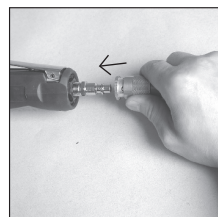

Figure 2
3. Remove the air inlet protective cap from the tool and mount a male plug. Connect air supply hose to the tool. Set the air pressure at 90 PSI. (See Figure 2)